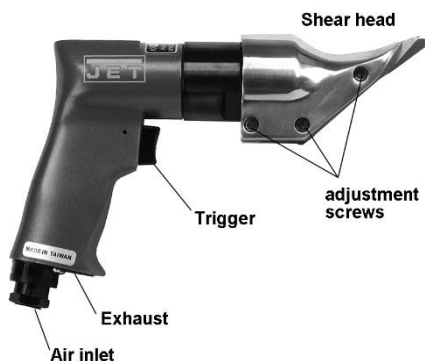

Figure 1
1. Remove protective cap from air inlet (Figure 1). If an in-line oiler is not being used, add 4 or 5 drops of air tool oil (not included) into the air inlet.